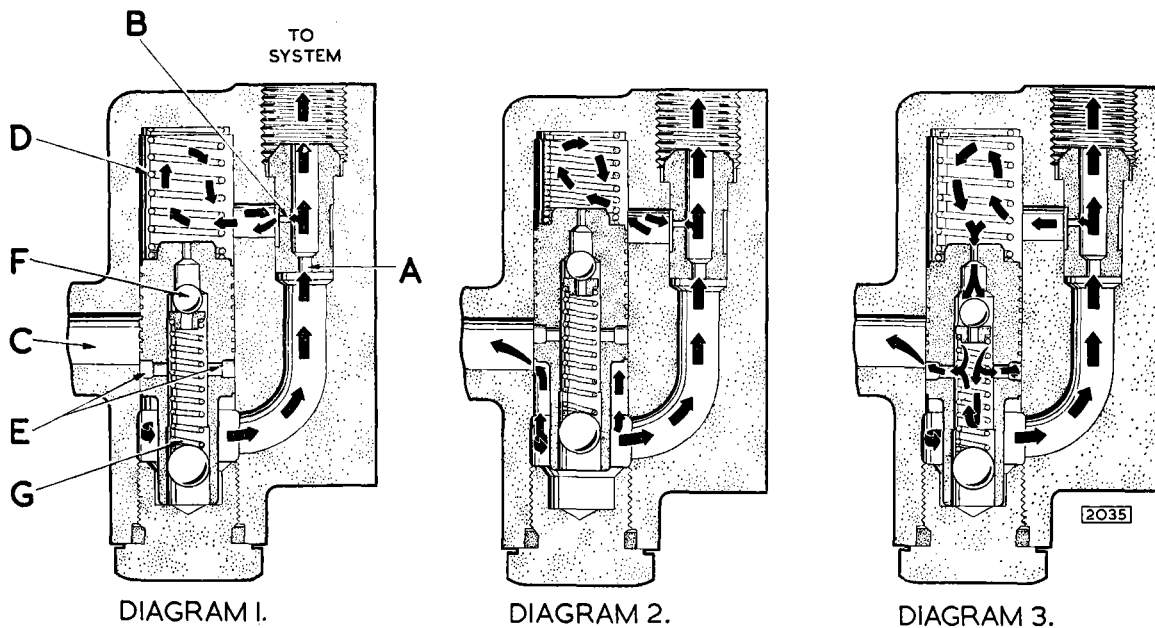

Fig. 29. Operation of the combined flow and relief valve.
The later type oil pump which provides hydraulic pressure in the system is a Hobourn-Eaton unit of the roller type and incorporates a combined flow and relief valve (Fig. 29). The pump is attached to the rear of the dynamo and is driven from the dynamo shaft by means of a rubber coupling. Commencing Engine Nos. KG.7700 (3.4 litre), LB.2634 (3.8 litre).
When the pump comes into operation, and oil flow commences, a drop in pressure caused by the primary orifice (A, Dia. 1, Fig. 29) occurs. Oil at this lower pressure passes through the secondary orifice (B) and enters the chamber containing spring (D) (Condition in Diagram 1). This pressure difference increases with the oil flow causing the control valve to move against the spring (D) and when a pre-deter-